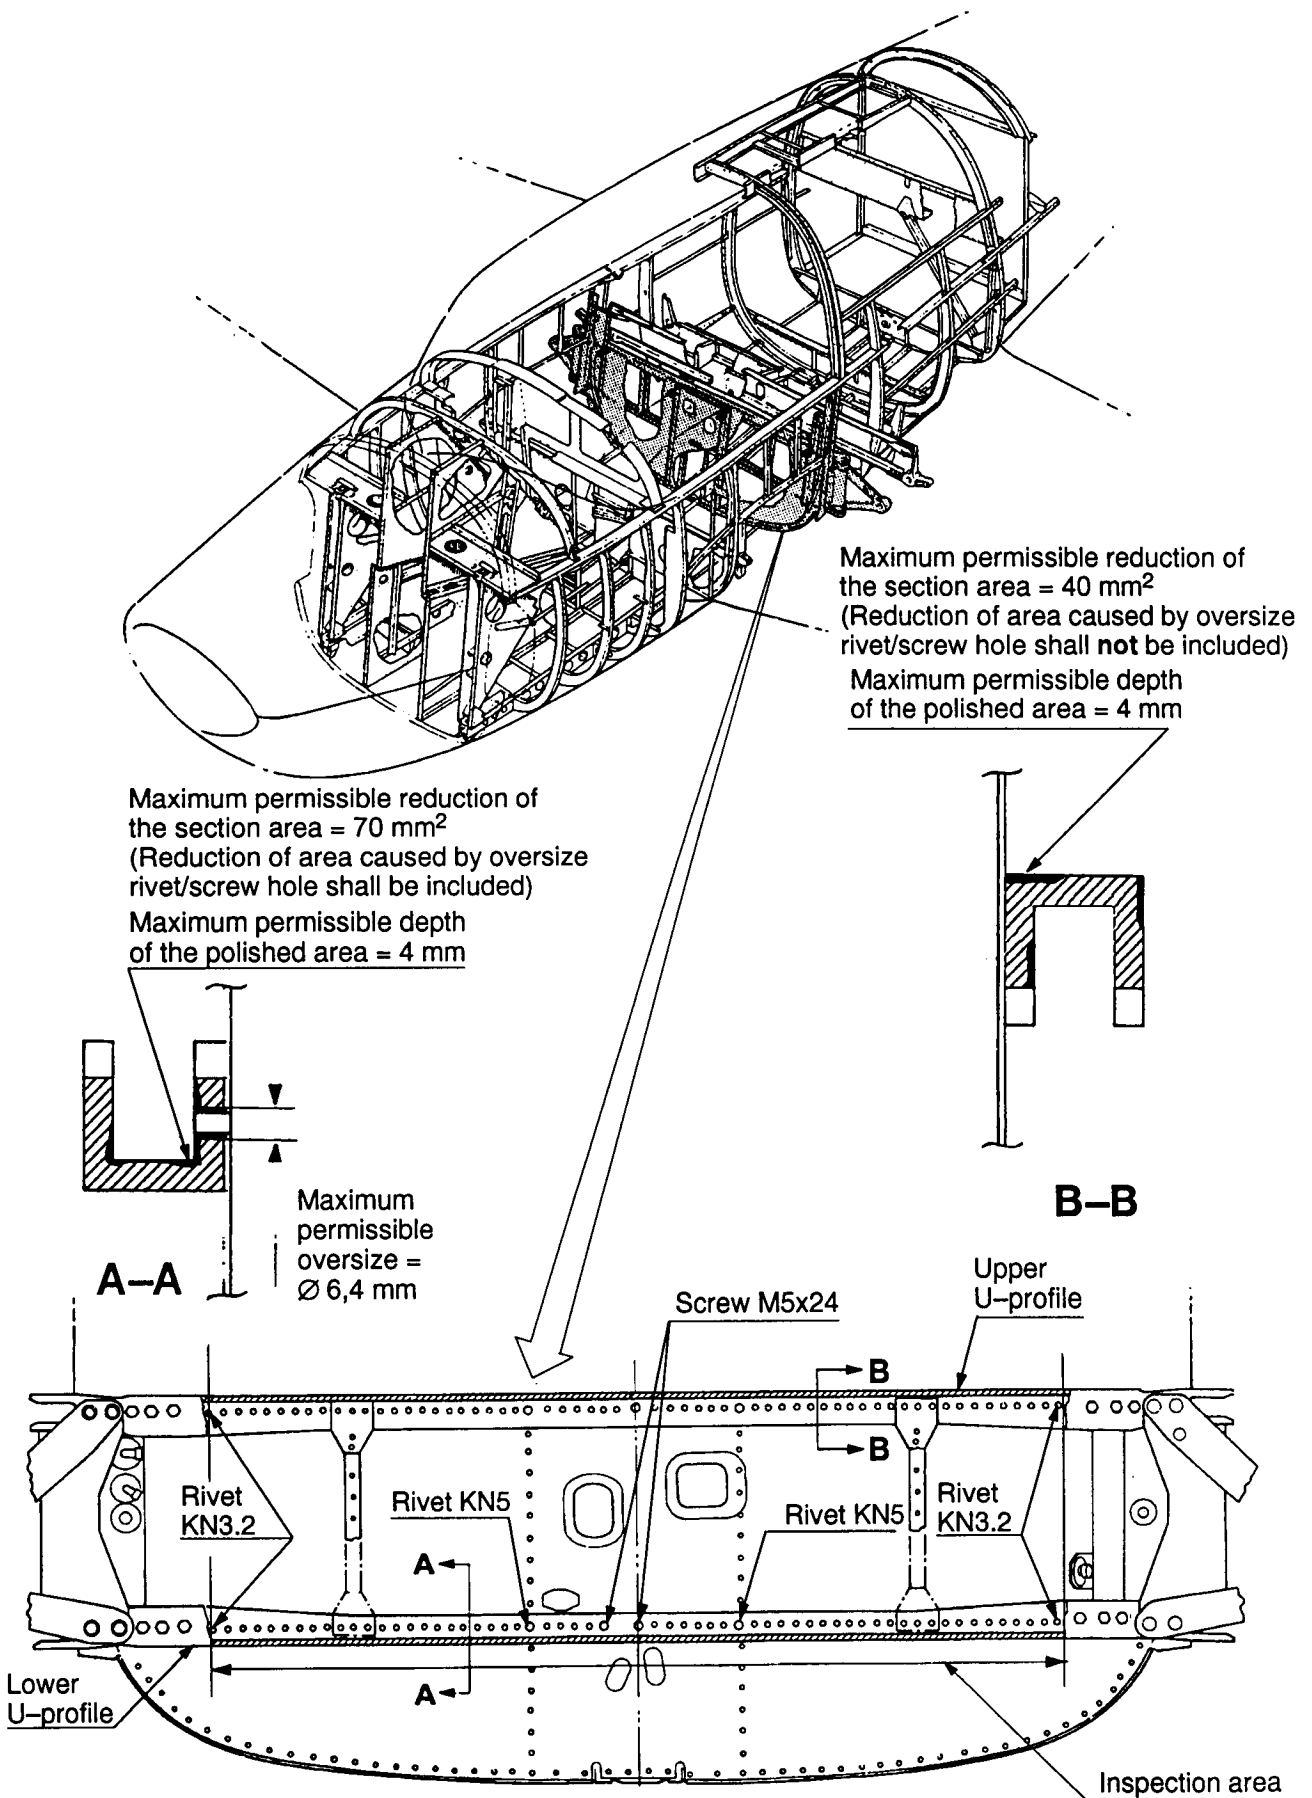

Figure 1. Frame with main spar
Corrosion damages have been revealed in the upper and lower U-profile of the fuselage main spar of the aircraft. The profiles are exposed to heavy stress from the wing loads transferred in the wing coupling brackets attached to the profiles. The corrosion damages may have been caused by grass and dirt being thrown up from the main landing gear wheels and intercepted by the U-profiles of the main spar. The grass and dirt also may cause that the drain holes of the lower U-profile will be plugged up and there will be a risk of corrosion due to undrained moisture. In acidiferous environment this risk will increase. See figure 1.
Inspect the upper and lower U-profile of the main spar for corrosion damages through the LH and RH main landing gear wheel wells, see figure 1.
- 2 Visually inspect the affected area by using inspection mirror and bright light, see figure 1.
- 1 Remove the rivets (KN 3,2, KN 5,0) at the corroded area by drilling. Use 3,0/4,8 mm drill and 3,0/4,0 mm punch. See figure 1.
If necessary remove the screws (M5x24). Se figure 1.
Max permissible reduction of the U-profiles section area is given in figure 1, section A-A respectively section B-B.